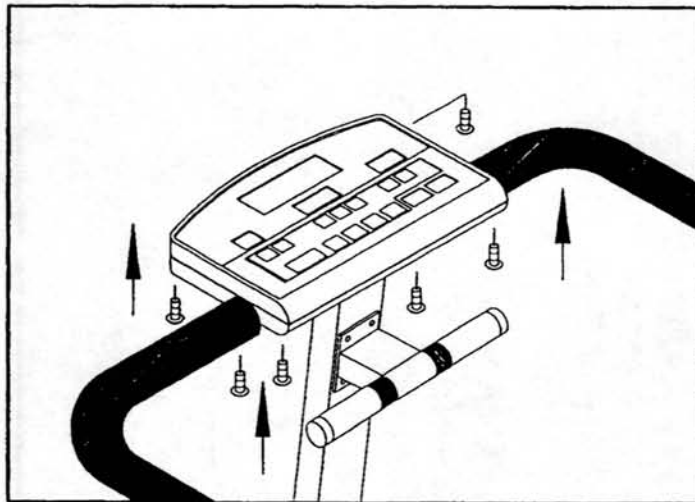

Fig.17-4
2. Assemble the COVER OF PANEL by securing all screws (see fig.17-4)